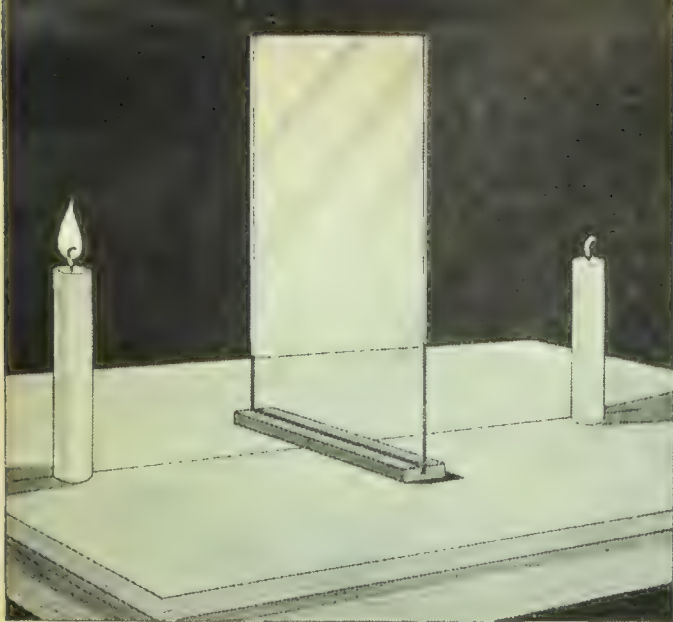

FIG. 457. Experiment 103
*Experiment 103.* HOW CAN WE PROVE THAT THE IMAGE IN A MIRROR APPEARS AS FAR BACK IN THE MIRROR AS THE OBJECT IS IN FRONT OF THE MIRROR? Set up a sheet of glass in a room that is not too light and where there is no strong light behind the glass. Under this condition the glass will reflect light as a mirror does. Place a lighted candle in front of the glass and an unlighted candle behind the glass (Figure 457). If you look into the glass, you will see the reflection of the lighted candle in front of the glass, and you will also see the real candle through the glass.